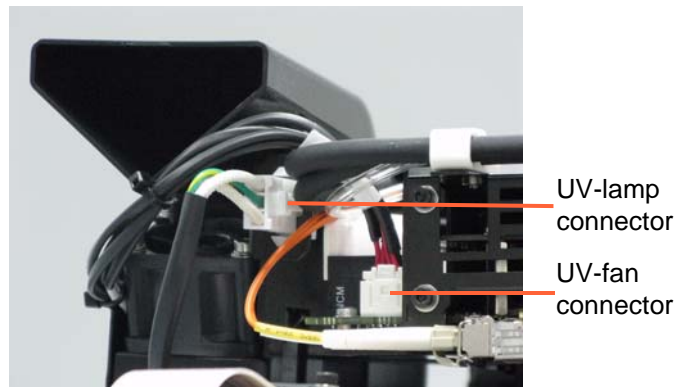

Figure 47 UV Lamp/Fan Connections
35. Connect the UV lamp power and ventilation connections to the printing assembly (see Figure 47).